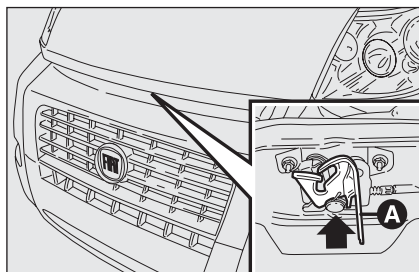

fig. 121
- ☐ pull lever **A-fig. 121** as shown in the figure;